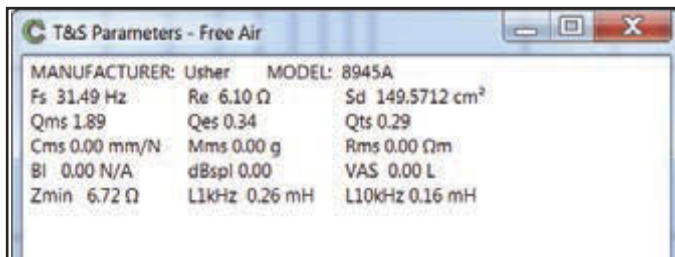

Figure 3: Thiele-Small free-air parameters
Close the measurement settings menu and click on the T&S Parameters icon in the upper tool bar. As shown in **Figure 3**, a window appears showing parameters that can be calculated from the free-air impedance data. Notice that the CLIO Pocket has calculated driver cone area (SD) from the input diameter.